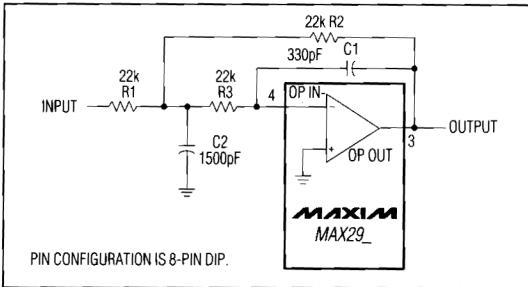

Figure 4. Uncommitted Op Amp Configured as a 2nd-Order Butterworth Lowpass Filter ( $F_c = 10\text{kHz}$ )
The uncommitted op amp has its noninverting input connected to the GND pin, and can be used to build a 1st- or 2nd-order continuous-time lowpass filter. This filter is intended for anti-aliasing applications preceding the switched-capacitor filter, but it can be used as a post-filter to reduce clock noise. Figure 4 shows one of many filters that can be built with this op amp: a 2nd-order Butterworth filter with a 10kHz corner frequency and an input impedance greater than 22kΩ. Table 1 gives alternative component values for different corner frequencies of the same Butterworth filter.
Table 1. Component Values for Figure 4's Filter
As the passband ripple of the MAX293/MAX294/MAX297 elliptic filters is of the order of  $\pm 0.1\text{dB}$ , it is normally appropriate to keep the passband errors of any anti-aliasing filter at or below this level. This is achieved by choosing the corner frequency of Figure 4's Butterworth filter ( $f_{cB}$ ) to be higher than the corner frequency of the elliptic switched-capacitor filter ( $f_{cE}$ ) by a factor of 2.5 or more. A factor of 5 or more is recommended to avoid problems with component tolerances, i.e.  $f_{cB} > (5)(f_{cE})$ .